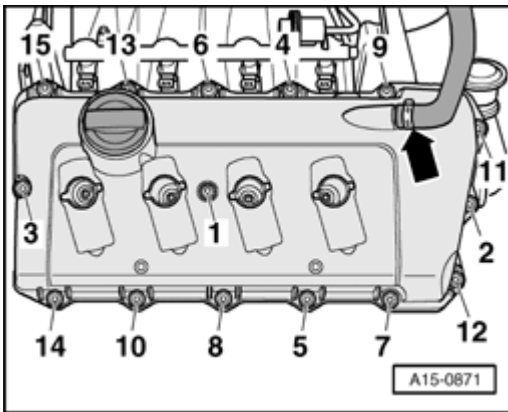

Fig. 318: Disconnecting Hose Of Crankshaft Housing Ventilation & Removing Left Cylinder Head Cover Bolts In Sequence
- Observe sequence for tightening --> **Fig. 318**